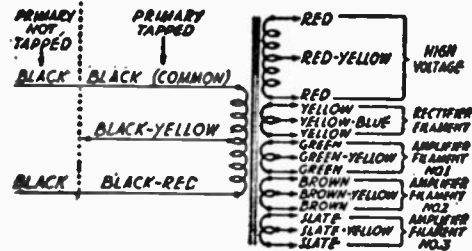

Fig. 706
A. While these are available in standard texts, and often in manufacturers' handbook, it will be helpful to many to reprint them here. (See Figs. 706 and 707).